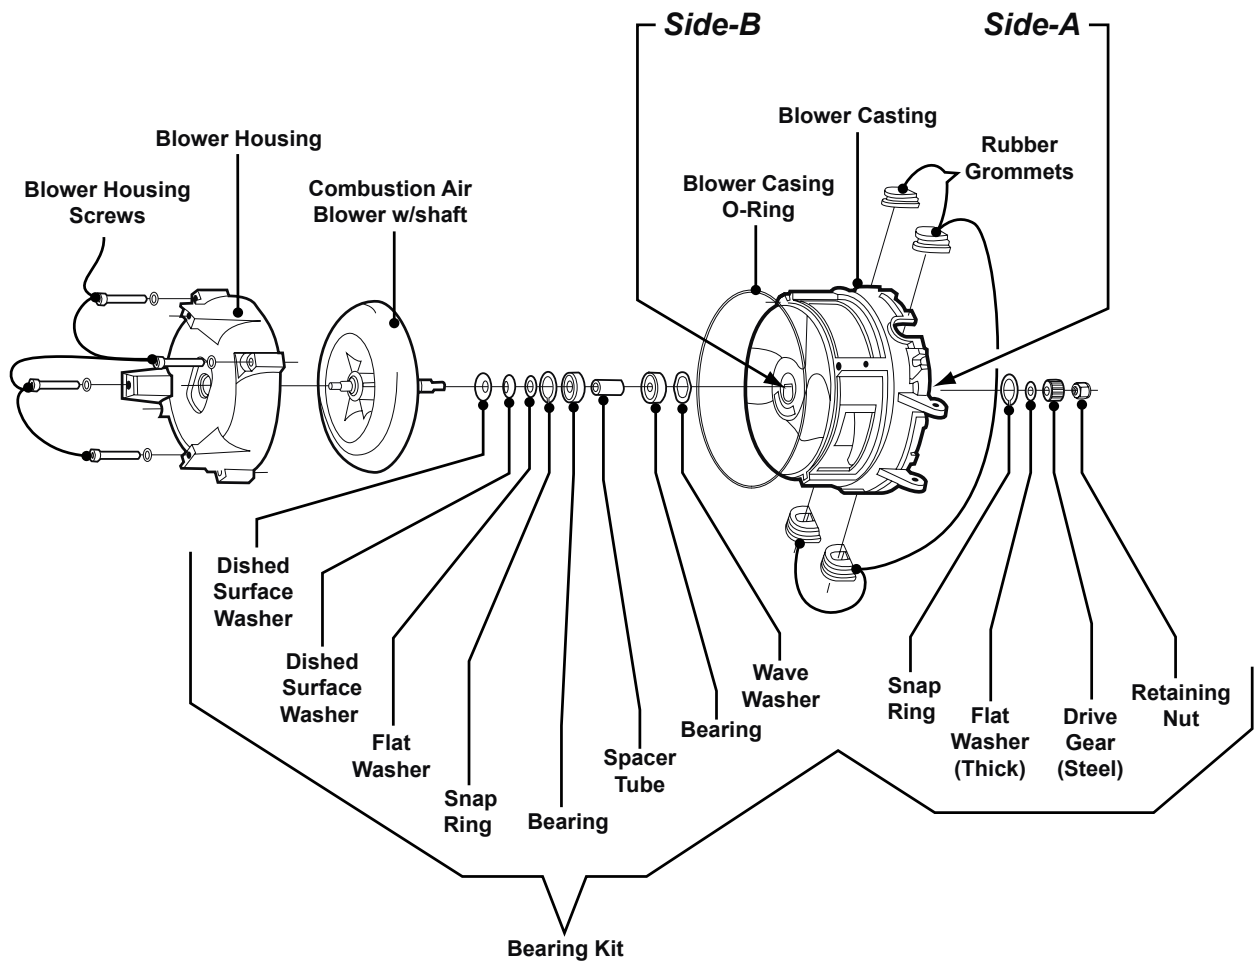

Figure 23
6. Remove the four *Blower Housing Screws*, which secure the *Blower Housing* to the *Blower Casting*; reference Figure 23. Remove the *Blower Housing* to expose the *Combustion Air Blower*; reference Figure 23.
NOTE: Be sure to observe the placement of the three *Washers* of the Bearing Kit illustrated in Figure 23. To ensure proper tension, the same order and direction of the dished surfaces of the *Washers* must be followed when reassembling.
8. With a pair of Snap-Ring pliers, remove the *Snap Rings* from both Side-A and Side-B of the *Blower Casting*; reference Figure 23. Push all the contents of the Bearing Kit out of the *Blower Casting's* bore/bearing cavity. Discard the *Retaining Nut*, steel *Drive Gear*, *Snap Rings*, *Bearings*, *Spacer Tube*, and *Washers*, as replacements are provided in the new Bearing Kit.
9. Install a new *Snap Ring* into Side-A of the *Blower Casting*; reference Figure 23. Once the Snap Ring is in place, insert the remaining contents of the new Bearing Kit into Side-B of the *Blower Casting* starting with the *Wave Washer*, as illustrated in Figure 23. Secure the Bearing Kit assembly in place with the remaining *Snap Ring* (Side-B).
- A:** Prior to installation, reference Figure 23 for the exact placement of the three *Washers*, which slide over the threaded end of the Combustion Air Blower's shaft. Failure to follow the correct order and direction of the dished surfaces on the *Washers* will result in a restricted rotation of the *Combustion Air Blower*.
through the Bearing Kit assembly until the threaded portion appears on Side-A of the *Blower Casting*; reference Figure 23. Place the new thick flat *Washer* and steel *Drive Gear* on the threaded end of the Combustion Air Blower's shaft. Thread the new *Retaining Nut* on the Combustion Air Blower's shaft until it is finger tight (**DO NOT TIGHTEN**).